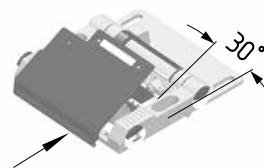
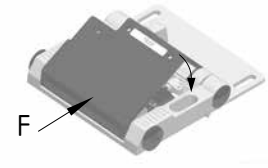

Fig. 2
Fig. 3
- Firmly push the enclosure cover under an angle of approx. 30° onto the retaining collar (Fig. 2) and simultaneously exercise a downwards pressure (Fig. 3).